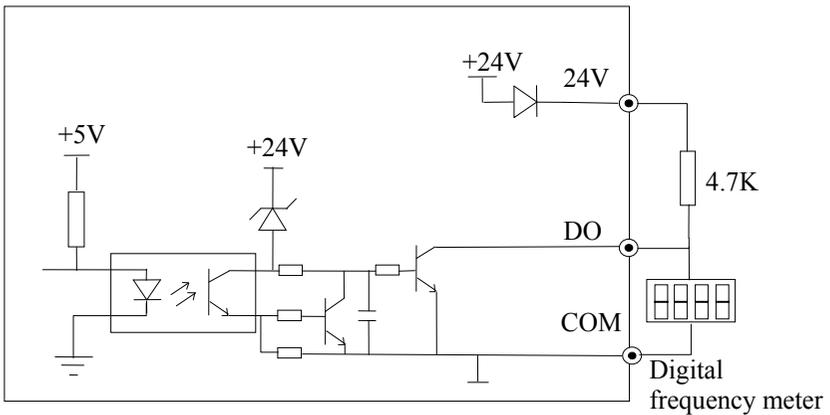

Fig. 2-28 Wiring method 1 of DO as pulse output
3) Multi-function output terminals / Pulse output terminal DO as pulse output can use the internal 24V power supply and the wiring is shown in Figure 2-28.